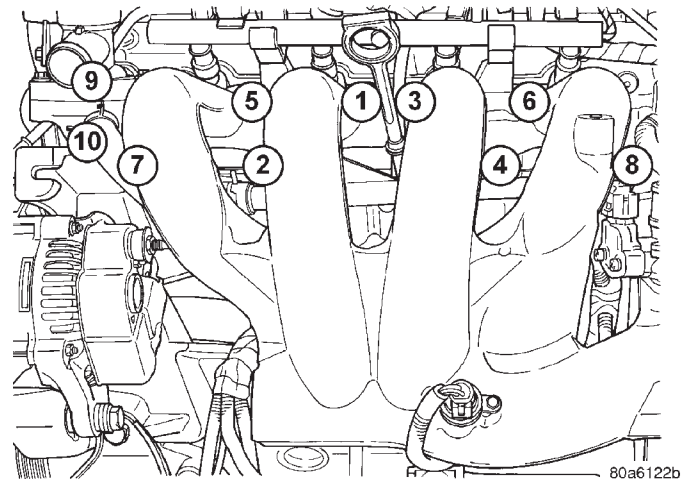

Fig. 16 Intake Manifold Tightening Sequence
(1) Install new intake manifold gasket, and manifold onto cylinder head and tighten fasteners to 11.9 N·m (105 in. lbs.) in sequence shown in (Fig. 16).
(2) Remove covering from fuel injector holes and insure the holes are clean. Install fuel rail assembly to intake manifold. Tighten screws to 23 N·m (200 in. lbs.).
(3) Connect PCV and brake booster hoses.
(4) Inspect quick connect fittings for damage, replace if necessary Refer to Group 14, Fuel System for procedure. Lube tube with clean 30w engine oil,